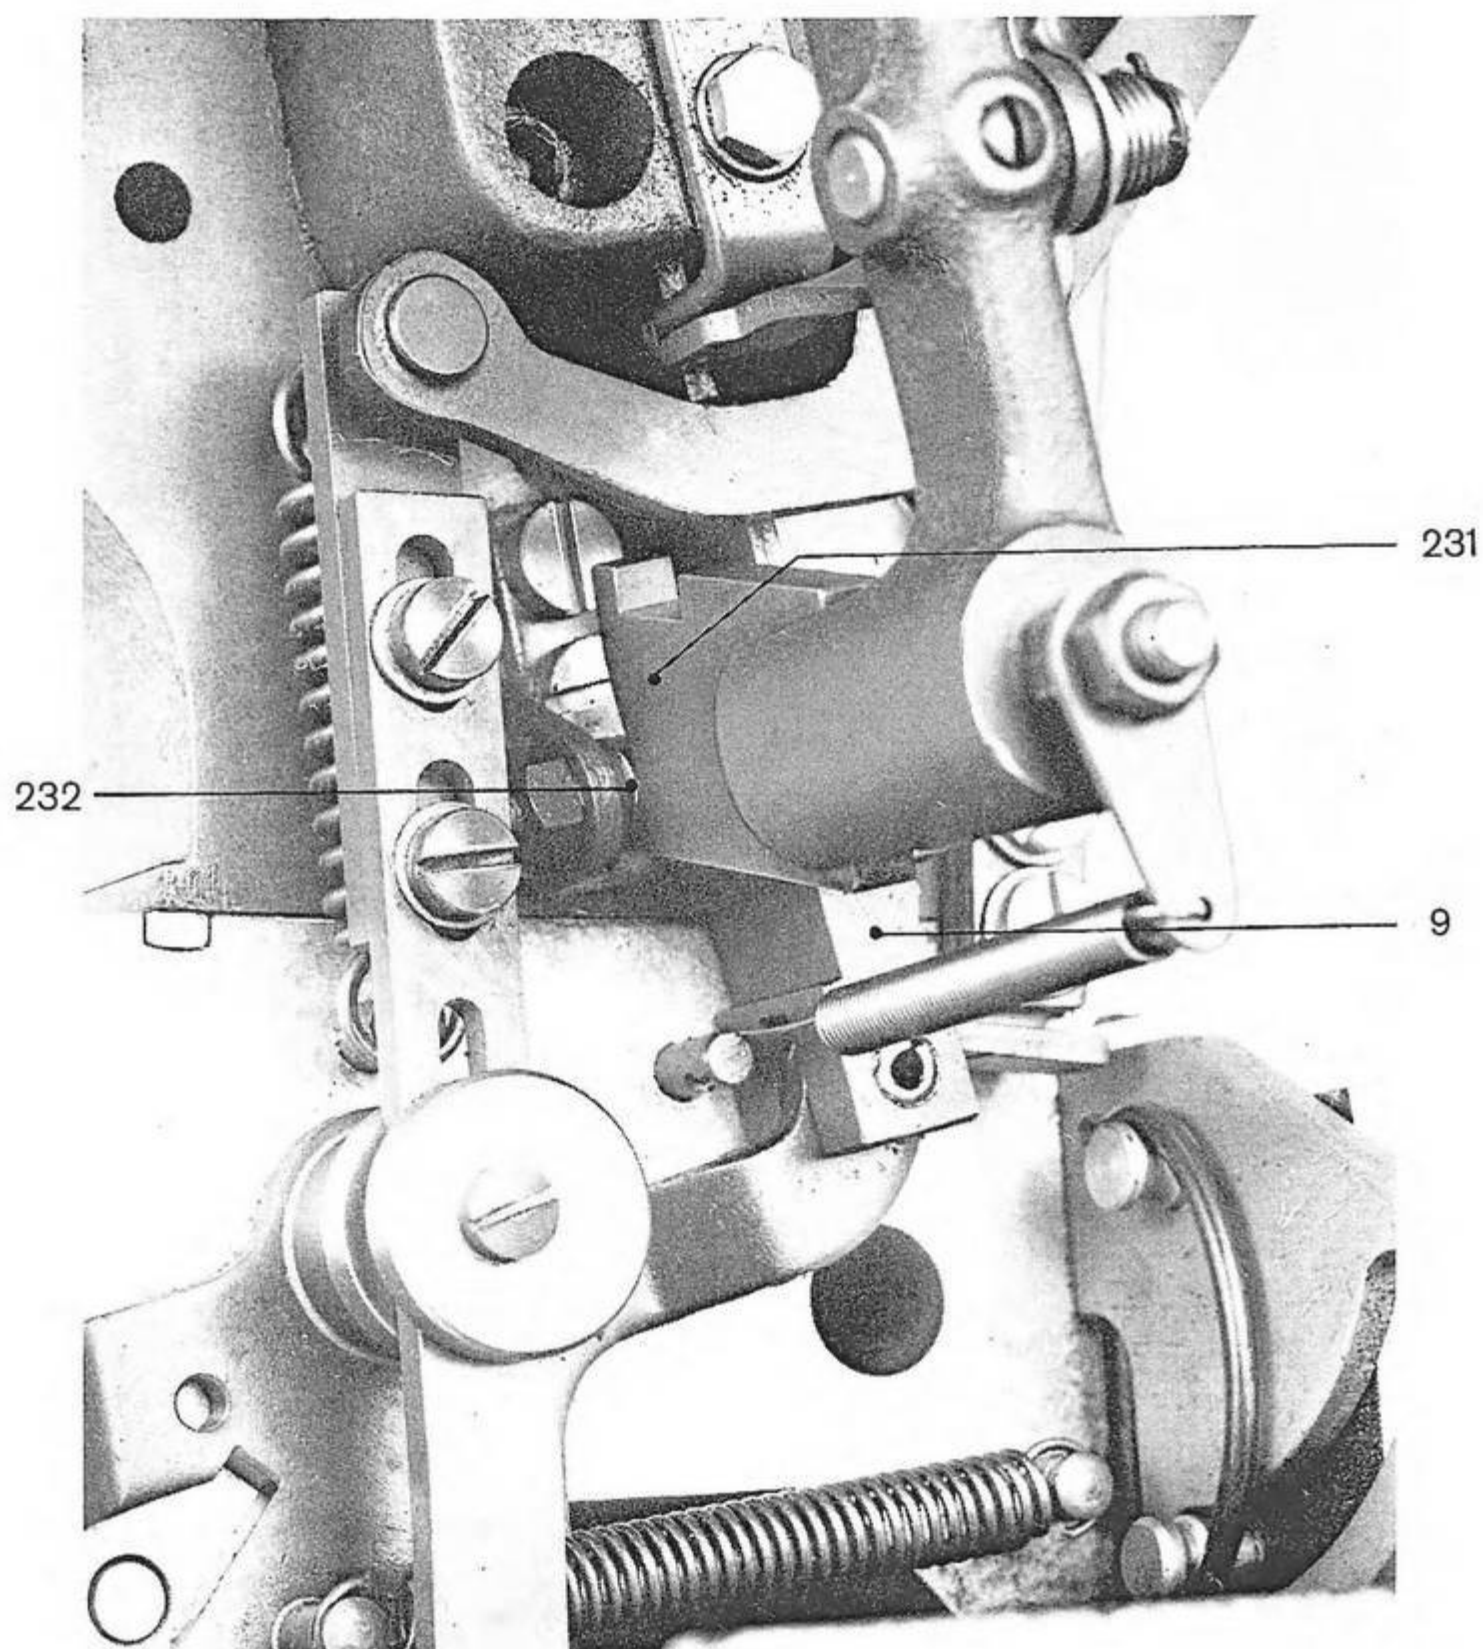

Fig. 49
A. In machines where the face of the pressure part 231 (fig. 49) is shaped as a cam (new design)
2. With the brake slide 9 (figs. 4 and 49) being in its lowest position, the lowest point of the cam on the face of the thrust member 231 (fig. 49) should be in the middle of the roller 232. See fig. 49.
B. In machines, in which the face of the thrust member 231 (fig. 49) is straight (old design)